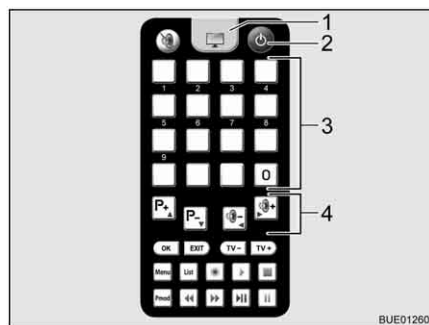

Fig. 25 Remote control for television
- Press the key "⏻" (Fig. 25,2) on the remote control for the television. The unit switches to search mode. You will hear a continuous tone.
- To switch to television reception on the TV remote control, press the TV button (Fig. 25,1). The signal tone will stop. An image will appear on the screen.
- Use the memory buttons (Fig. 25,3) on the TV remote control or the function buttons (Fig. 25,4) to select the desired station.